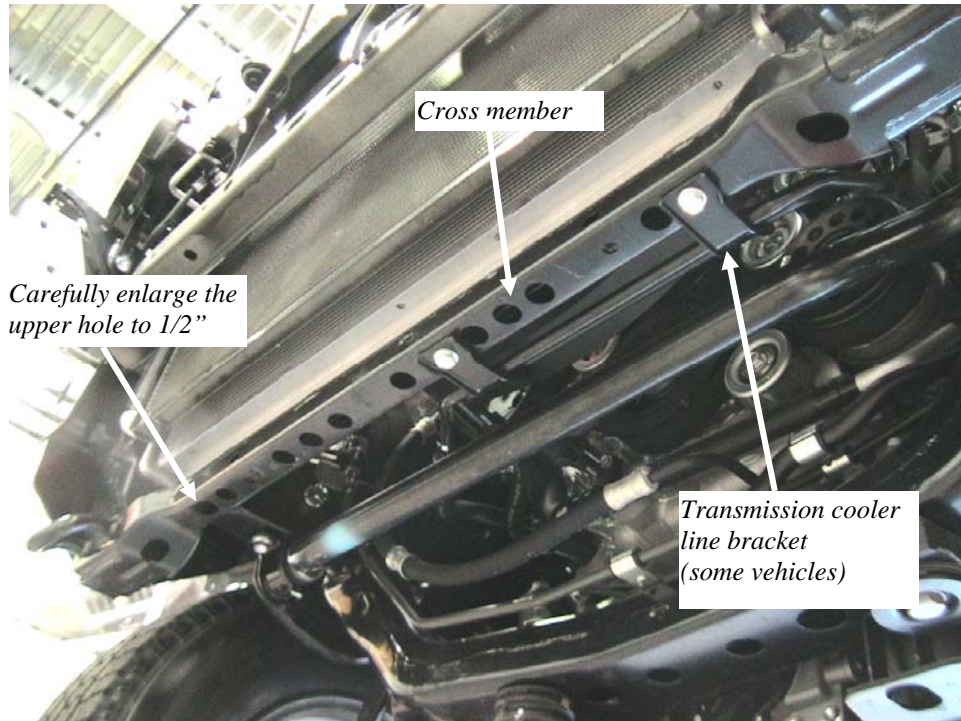

Figure 15 Cross member
16. Locate the outer hole in the bottom of the right end of the front cross member. Enlarge the hole in the top to 1/2". **Note: Do not drill into the radiator.** **Figure 15**
the bracket hole to 1/2". On all vehicles, drill out the threaded hole to 1/2" and continue drilling through the upper cross member wall. **Note: Do not drill into the radiator. Figure 15 and 16**